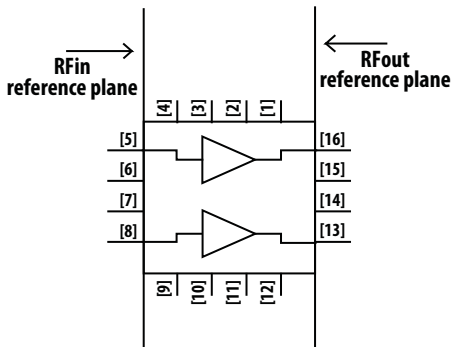

Figure 21.
2. Measurements are conducted on 0.010 inch thick ROGER 4350. The input reference plane is at the end of the RFin pin and the output reference plane is at the end of the RFout pin as shown in Figure 21.